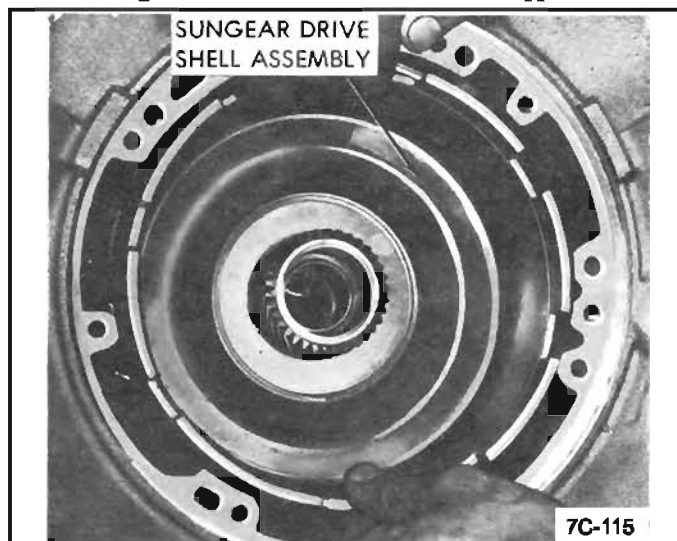

Figure 87 Sun Gear Drive Shell Assembly
1. Install low and reverse clutch support inner race to sun gear drive shell thrust washer and install sun gear drive shell assembly. *See Figure 87.*